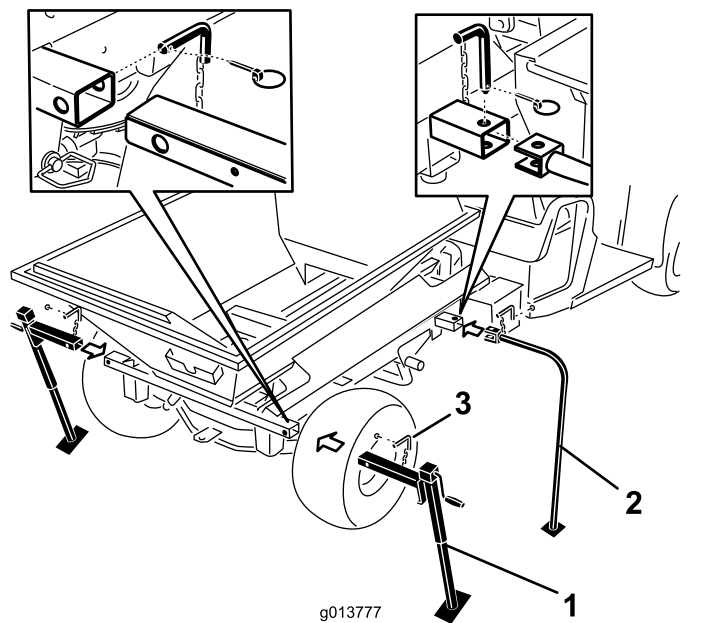

Figure 52
7. Insert the front storage legs and the rear jack stands into the machine tubes and secure them with the locking pins (Figure 52).